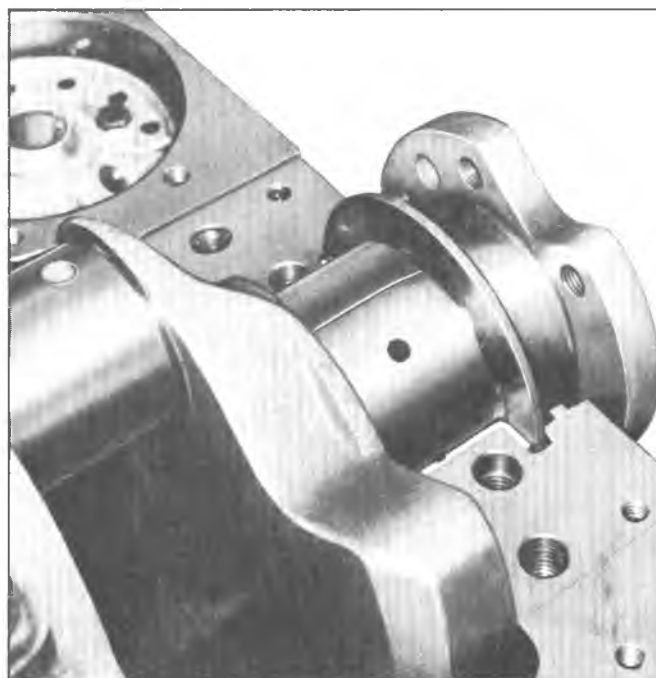

Fig. 39—Gauging Plastic on Journal
2. Place a piece of gauging plastic the full width of the bearing (parallel to the crankshaft) on the journal (fig. 39).